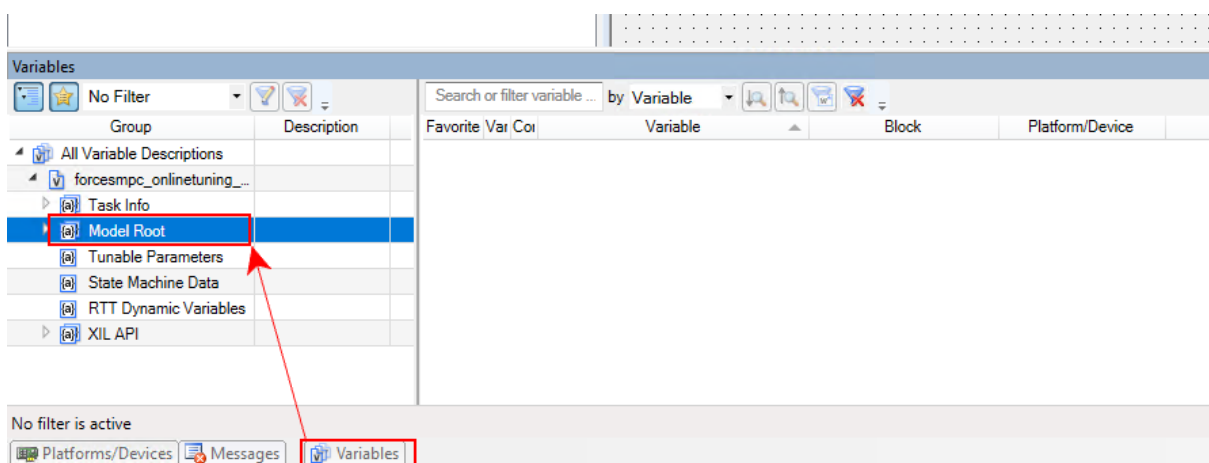

Figure 6.15: Find the model root in the variables tab
- 11) On the project layout select the tab *Variables* and on the *forcesmpc_onlinetuning_dSpace_MicroAutoBoxII* category expand *Model Root* (see Figure 6.15).